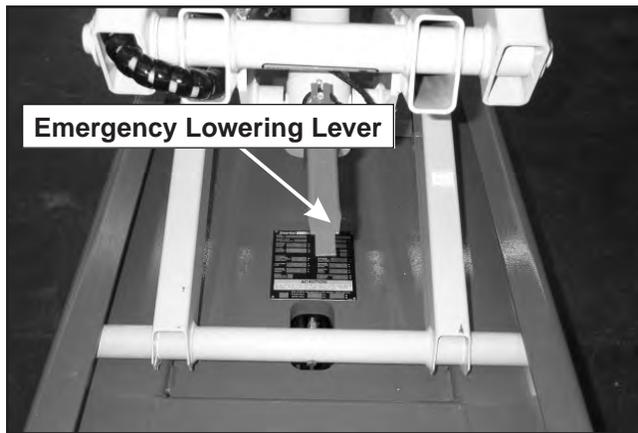

Figure 11.1—Emergency Lowering Lever
2. Locate the emergency lowering lever at the rear of the aerial platform (refer to Figure 11.1).